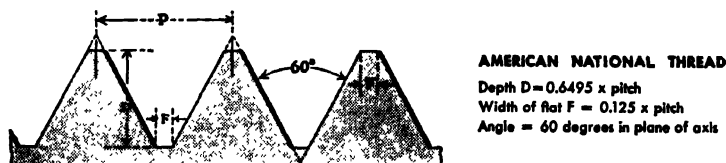

Fig. 17-4. American National thread. (*The Shell Oil Company*)
*The American National Thread* (Fig. 17-4). The American National thread form is now recognized as the standard locking thread form in the United States, principally because it is similar to the sharp V thread in every respect except one—the top and bottom of the threads are *flat*. This means that the strength and locking characteristics of the sharp V thread are largely retained, yet the thread will withstand more abuse without injury. At the same time,